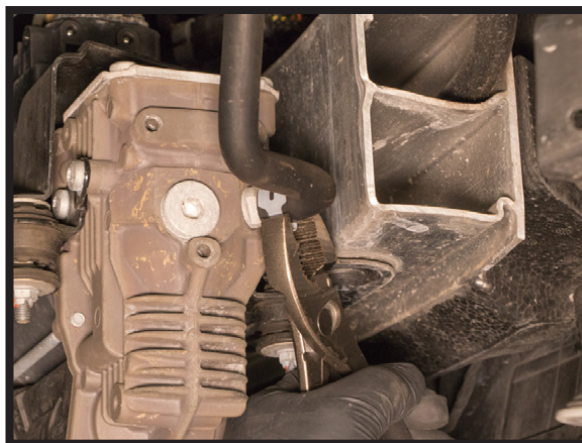

FIGURE 8
7. LOCATE THE LARGER RUBBER HOSE LEADING TO THE COMPRESSOR. PINCH AND SLIDE THE HOSE CLAMP OFF OF THE AIR FITTING AND REMOVE THE AIR HOSE. (FIGURE 8)